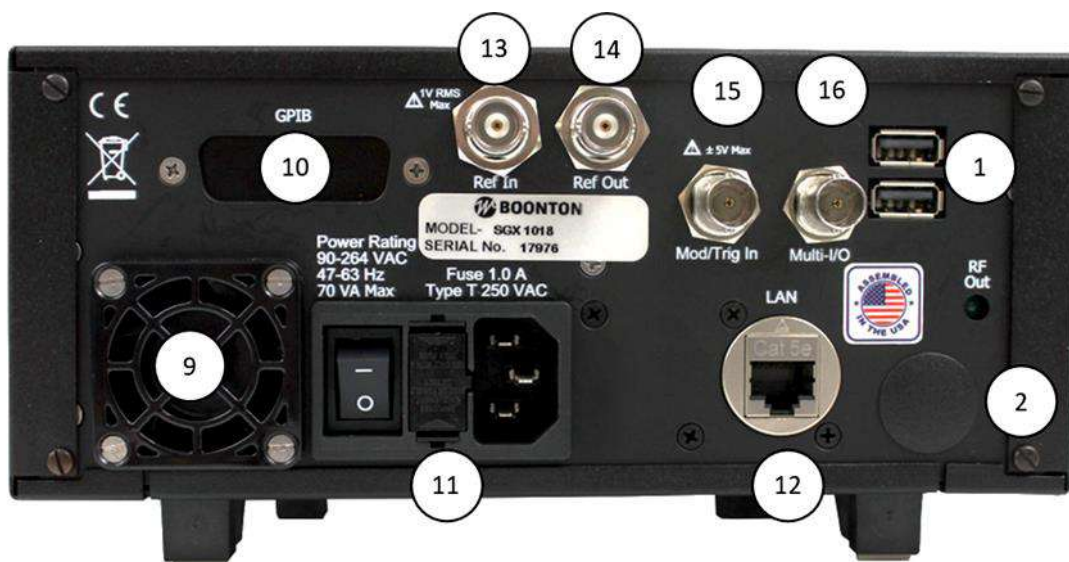

Figure 3-2. SGX1018 RF Signal Generator - Rear Panel
The SGX1000 series is equipped with a switching power supply that provides automatic operation from a 90 to 264 VAC, 47 to 63 Hz single-phase, AC power source. Maximum power consumption is 70 VA. Connect the power cord supplied with the instrument to the power receptacle on the rear panel. See Figure 3-2.
1. If the main power is off, press the power switch located on the rear panel. See Figure 3-2. Press the On/Standby key. See Figure 3-1. After a self-check, the instrument will execute the application program. There will be a momentary dialog indicating application initialization. After the dialog, the main screen will be on the display.